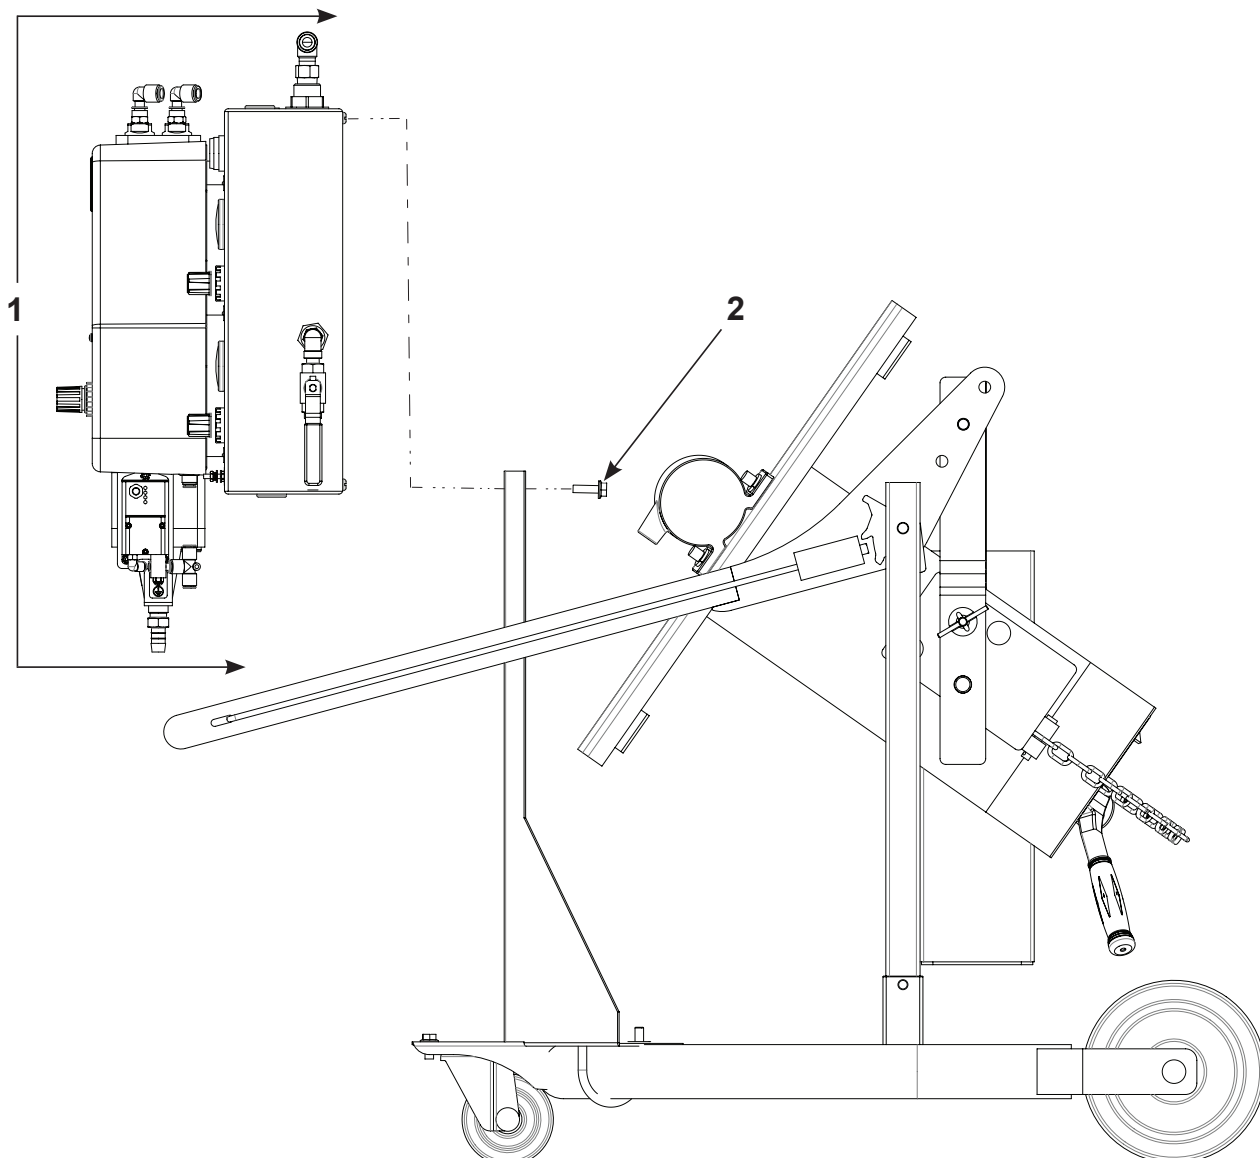

Figure 2 Installing the Pump Assembly
See Figure 2. Install the transfer pump station assembly (1) to the drum unloader using the screws (2) securely.